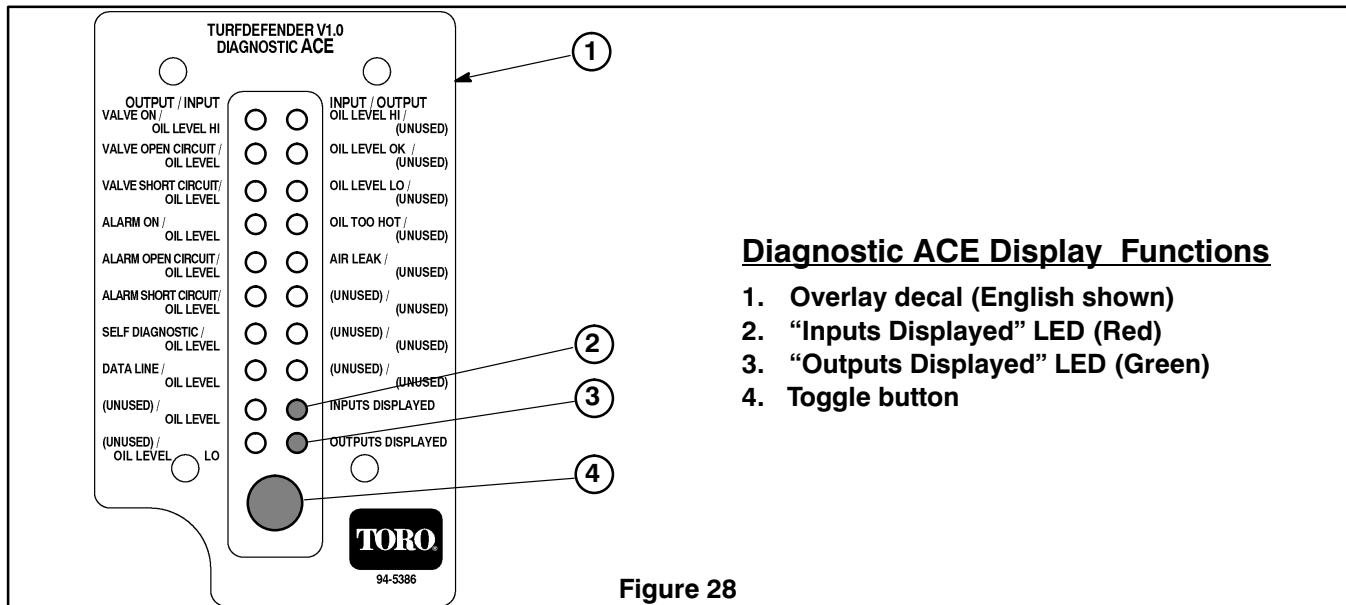

Figure 28
3. Connect the Diagnostic ACE display connector to the correct harness loopback connector. Install TurfDefender overlay decal (supplied with leak detector kit) onto Diagnostic ACE (Fig. 28).
5. The red "Inputs displayed" LED (Light Emitting Diode), on lower right column of the Diagnostic ACE, should be illuminated. If green "Outputs displayed" LED is illuminated, press and release the toggle button, on Diagnostic ACE, to change LED to "Inputs displayed". Do not hold button down (Fig. 28).